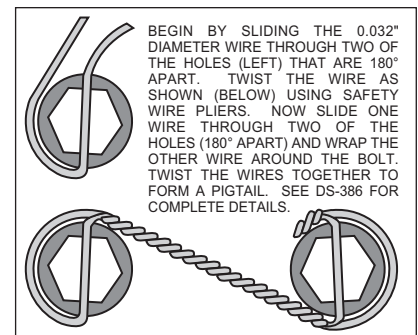

Figure 2. Safety Wire Diagram
- Apply red *Loctite*® 271 to bolt threads (2 and 3) before assembly of the caliper bracket (1) to backing plate face of spindle. Insert the two thicker mounting bolts (3) and the small mounting bolt (2) through the caliper mounting bracket (1). Position the caliper mounting bracket (1) onto the spindle, slipping each of the three mounting bolts (2 and 3) into the threaded spindle holes, finger tighten. Torque two bolts (3) to 77 ft-lb. Torque bolt (2) to 180 in-lb. **NOTE:** Be sure the heads of the caliper bracket (1) insert nuts are facing outward toward the wheel.
- Install five new wheel studs (4) into the hub (5). Torque to 77 ft-lb. **NOTE:** There are two five lug patterns in the hub (5 x 4.00 and 5 x 4.50). Make sure of the correct hole pattern for the correct wheel application before installing studs into hub.
- Pack the large inner bearing cone (6) with high temperature disc brake bearing grease (available from your local auto parts store) and install into the backside of the hub (5).
- Install the grease seal (7) by pressing into the backside of the hub (5).
- Attach rotor adapter (8) to rotor (9) using six bolts (10). Torque bolts (10) to 180 in-lb. Safety wire bolts (10) using standard 0.032 inch diameter stainless steel safety wire as shown in Figure 2. Please refer to Wilwood's data sheet DS-386 (available at www.wilwood.org/ds386.pdf) for complete safety wire installation instructions. **NOTE:** The flat side of the rotor (9) lugs face toward the rotor adapter (8) with the dished side of the rotor adapter (8) facing away from the rotor (9).
- Mount the adapter/rotor assembly (8 and 9) to the hub (5) using six flat washers (11) and six bolts (12). Torque bolts (12) to 22 ft-lb. Safety wire bolts (12).
- Pack the small outer bearing cone (13) with high temperature disc brake bearing grease. Lightly coat the spindle bearing surfaces with bearing grease. Slide the hub/rotor assembly (5 and 9) with outer bearing cone (13) onto the spindle. Secure using spindle washer (14), existing adjusting nut and nut locking device.